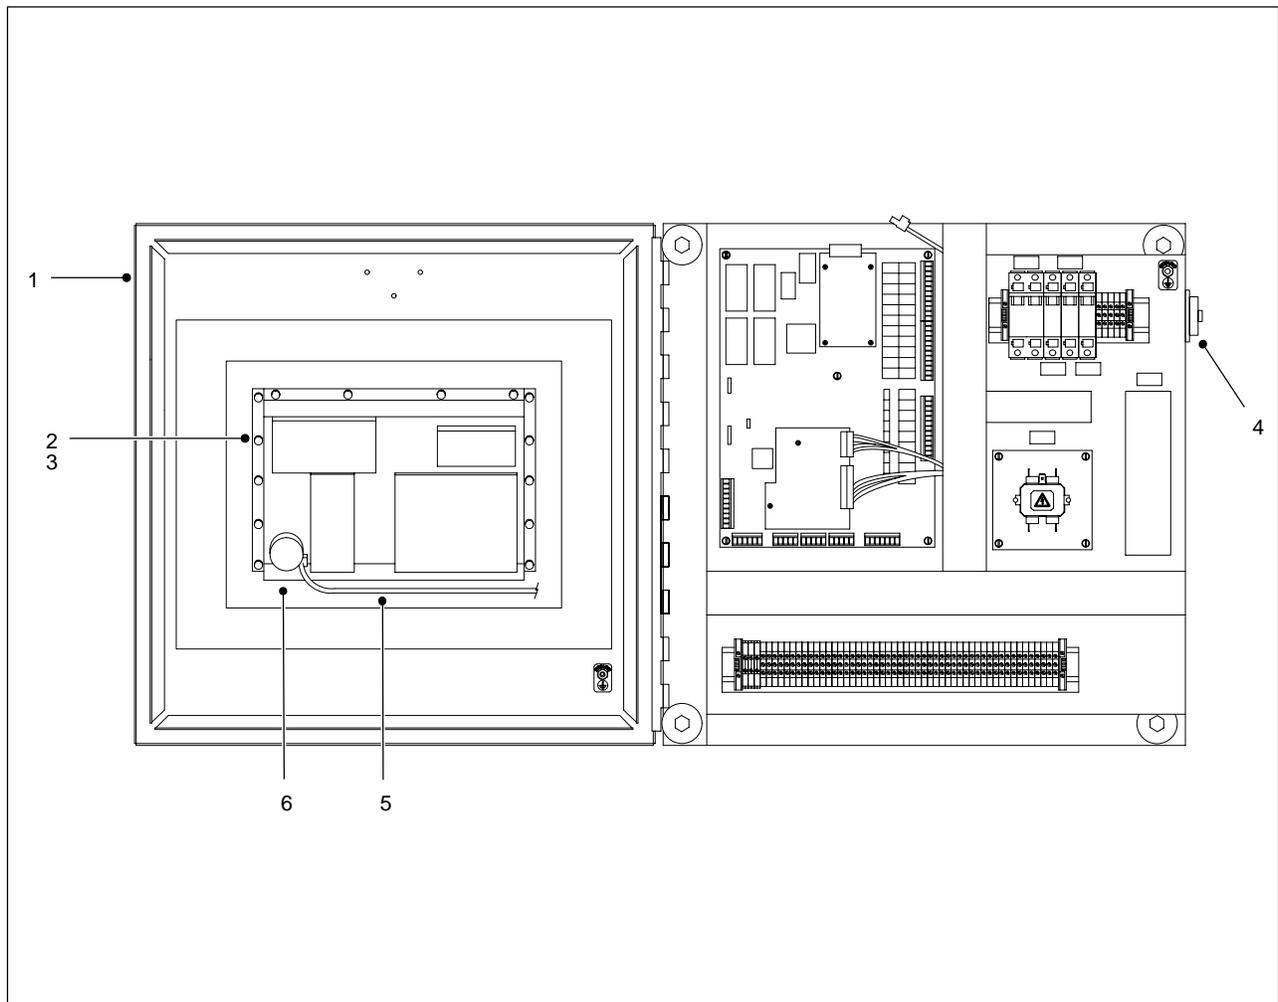

Figure 8 PCI Controller 1017349 Operator Interface
2. See Figure 8. Turn off the power switch (4).
3. Open the enclosure door (1).
4. Disconnect the connector (5) from the operator interface (6).
5. Remove the nuts (2) and lock washers (3) securing the operator interface (6) to the enclosure.
6. Install the new operator interface (6) using the lock washers and nuts. Tighten the nuts securely.
7. Connect the cable (5) to the operator interface (6).
8. Close the enclosure door (1).